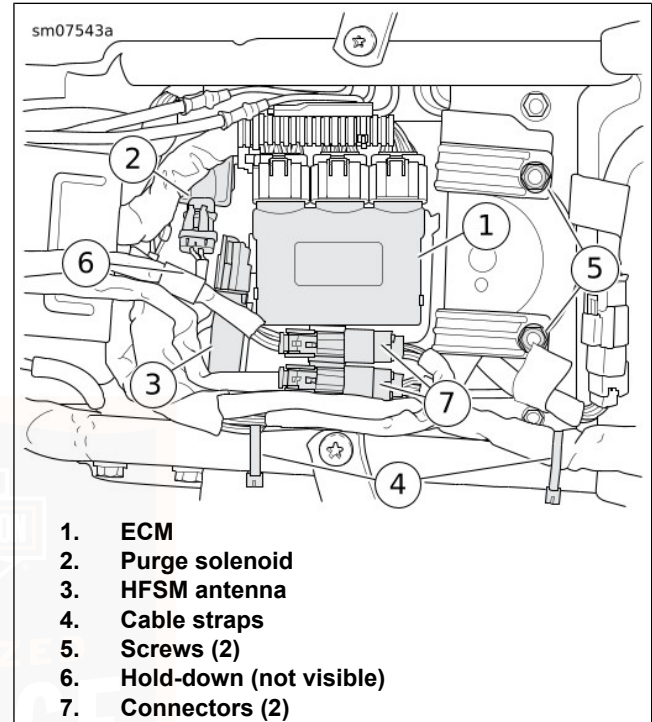

Figure 95. Top Caddy
2. See Figure 95. Release ECM (1) from top caddy. Move out of the way.
3. If present, move purge solenoid (2) forward to release from top caddy.
4. **Models with security system:** Release HFSSM antenna (3) from top caddy and move out of the way.
5. Release connectors (7) from anchors on top caddy.
6. Remove fasteners (5).
7. Cut cable straps (4). Move harnesses to allow more clearance for the top caddy.
7. See Figure 95. Place top caddy into position and engage latch on hold-down bracket.
8. Fasten top caddy to frame crossmember with fasteners (5). Tighten.